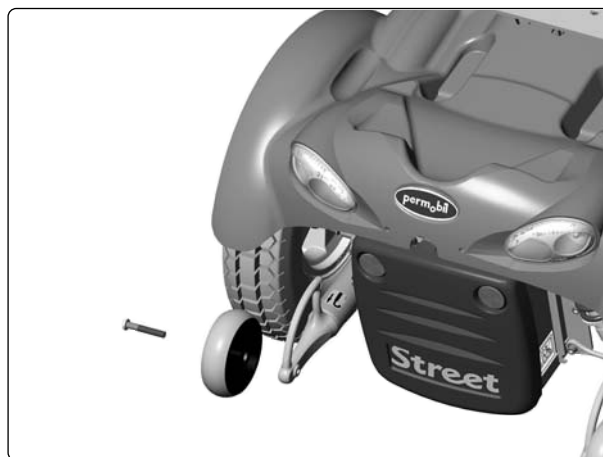

Fig. 16. The support wheels are fitted with one bolt each.
2. Remove the bolt; see figure 16.